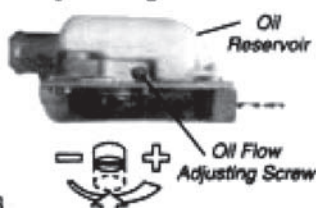

Figure 23
2. Place the unit on its side with the oil reservoir up. See Figure 23.